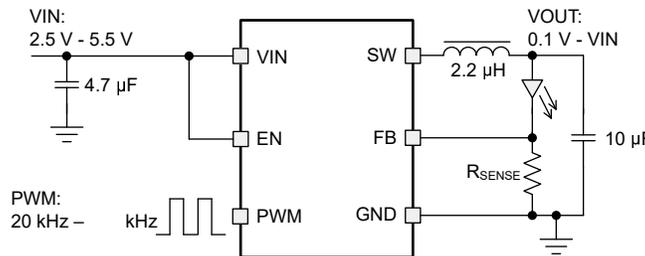

Figure 4-1. TPS92201 Simplified Schematic
- The feedback reference produces a precise $\pm 5\%$ voltage reference over whole temperature range when the PWM duty cycle is 100%, which is typically 100mV. In analog dimming mode, the feedback voltage is proportional to the duty cycle of PWM input as shown in Figure 4-1.